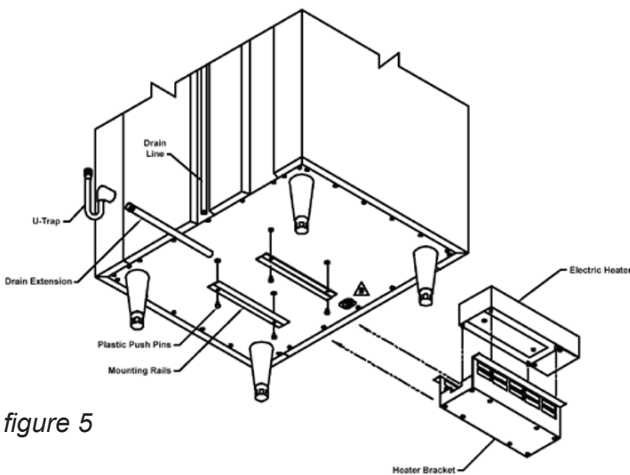

figure 5
1. After the cabinet has been uncrated and the legs/ casters attached, you must install the bottom-mounted condensate evaporator (see figure 5).
2. Locate the four (4) holes on the exterior bottom towards the rear of the cabinet.